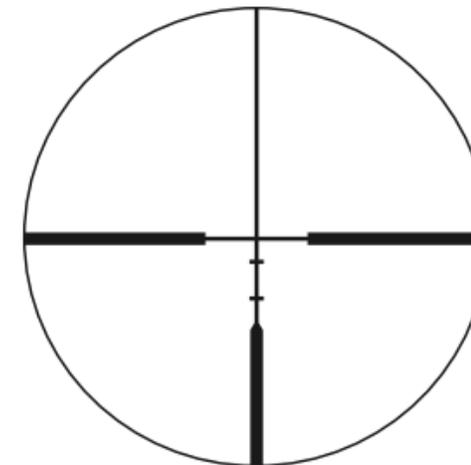
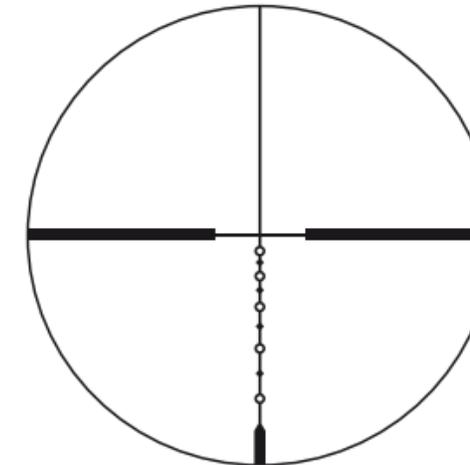

Fig. 3-1
Fig. 3-2
(1) Focusing
- 1 Look through the eyepiece with your eye positioned about 4 in (10 cm) away from the eyepiece to see either the BDC Carbine reticle (Fig. 3-1), or the BDC 600 reticle (Fig. 3-2), depending on your purchased product.